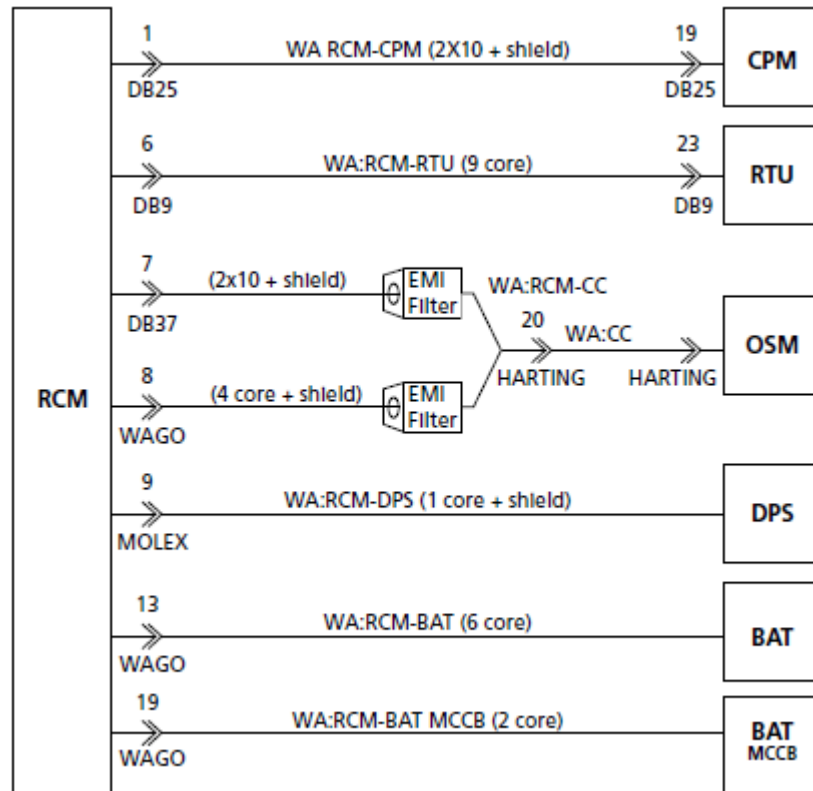

Figure 84
- 3) Connect the wiring to the RCM according to the wiring assembly diagram (Figure 84).